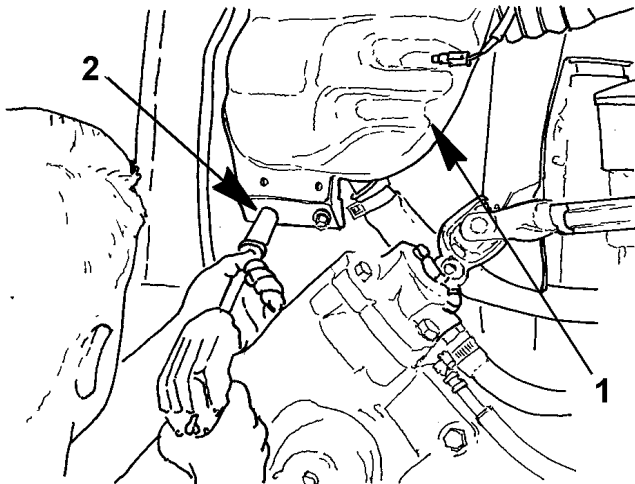

Figure 7 Surge Tank Lower Mounting Bolts
3. Loosen and remove lower surge tank mounting bolts from driver side radiator frame (Item 2, Figure 7).